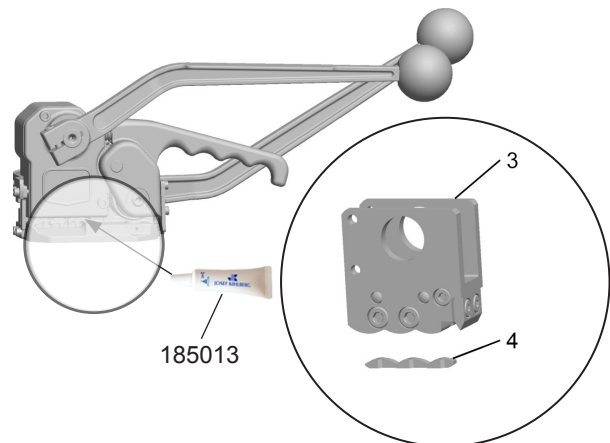

Fig. 16
- Clean any swarf and dirt off the upper (Fig. 16/3) and the lower punch (16/4), either by compressed air or with a small wire brush.